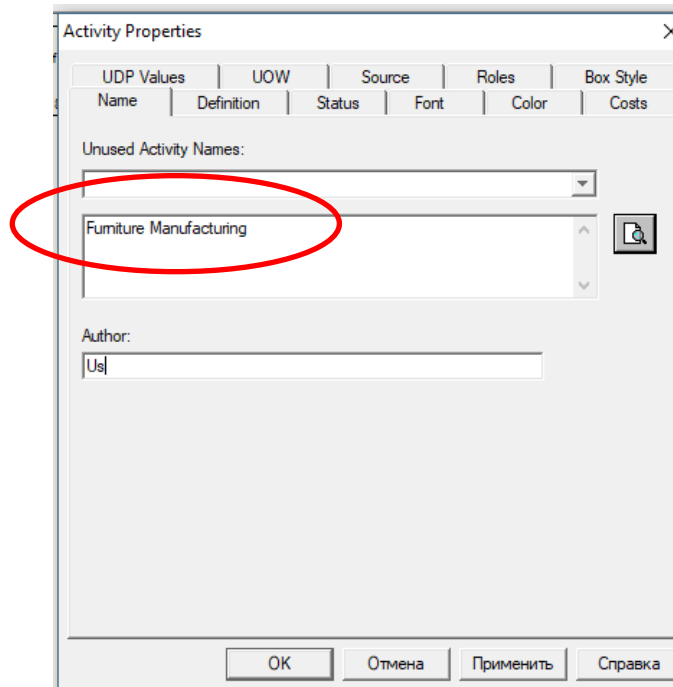

Fig. 1.7. The AllFusion Process Modeler 7.0 dialog box
3. Enter **Furniture Manufacturing** into the dialog box (fig.1.7).
4. Choose **Font** in the context menu to make the text clear (fig. 1.7)